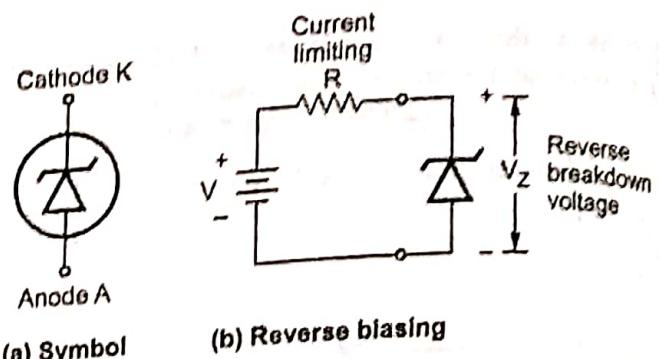

Fig. Q.22.1 Zener diode
- The Fig. Q.22.1 (a) shows the symbol of zener diode while the Fig. Q.22.1 (b) shows the operation of zener diode in reverse breakdown region.